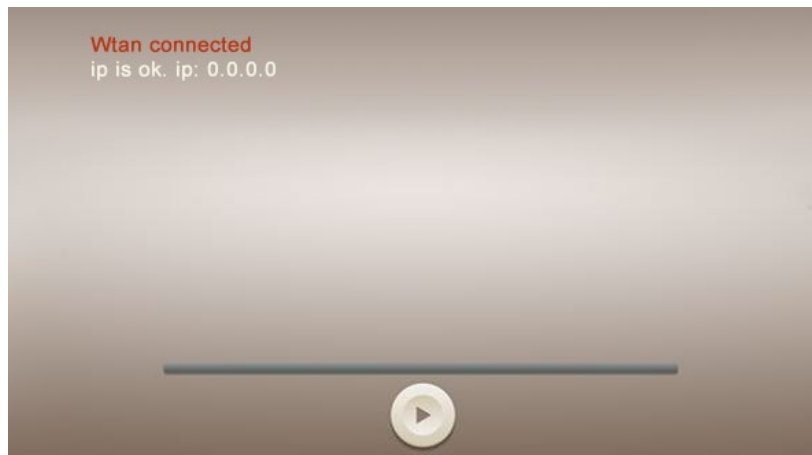
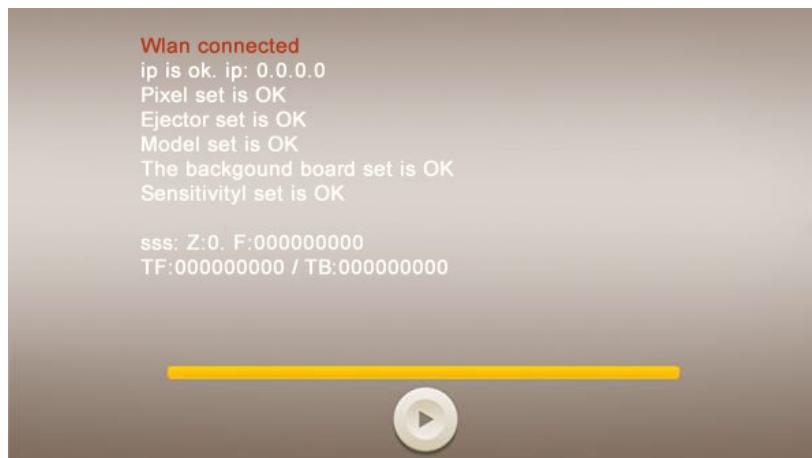

Fig. 1 Free configuration
Fig. 2 Free configuration
Step 5: Click the button  to make the system automatically deliver the data (Fig. 1) and enter the main interface after the delivery is completed (Fig. 2).